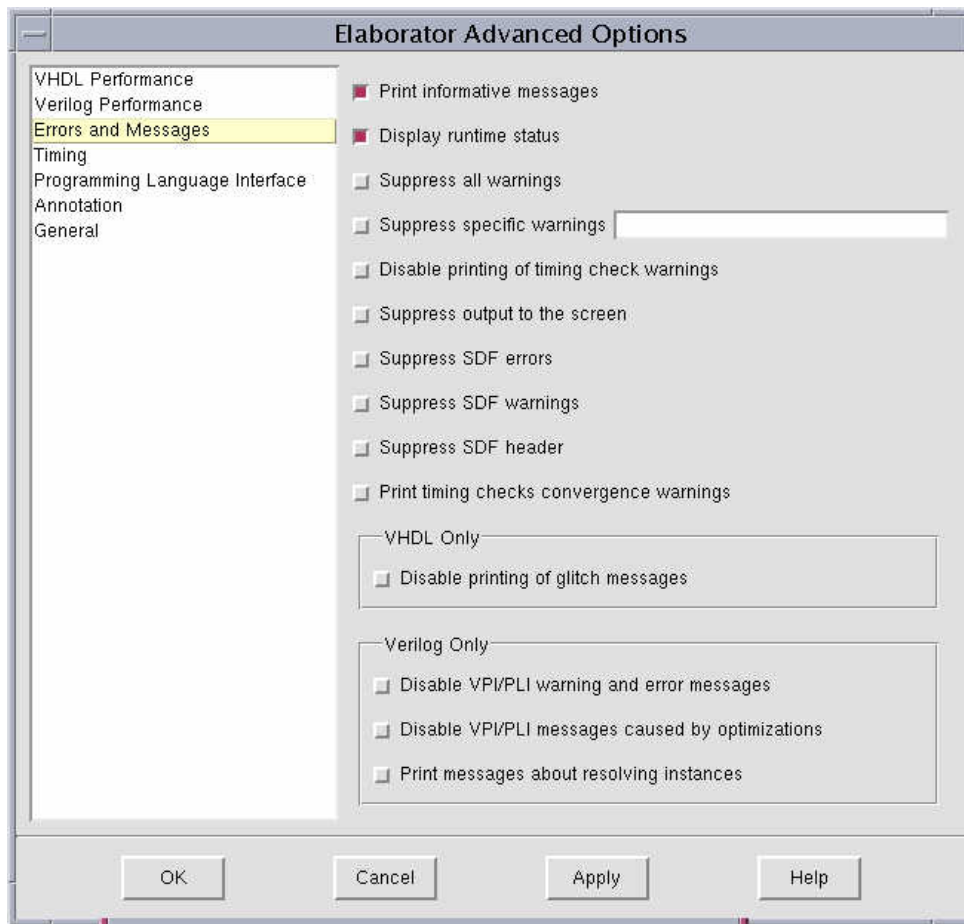

Figure 5-8 Advanced Options form settings.
3. Click on the **Advanced Options** button on the elaborator form. Select **Errors and Messages** on the Advanced Options form and set the form as figure 5-8, to get more SDF annotation information.